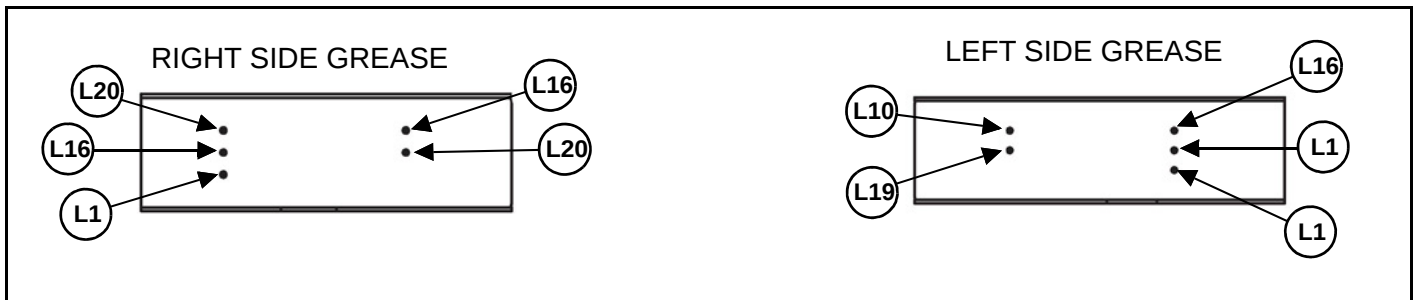

Figure 8.6 Side Grease Banks
- Ⓛ1 Grease (3) nylon bearings that support both augers and the second reduction jack shaft. The bushings are grease line fitted to the lower zerks on the front right and left side grease banks of the spreader. Grease minimum of 10 pumps. Over greasing is not possible. See Figure 8.6 on page 40.
- Ⓛ3 Maintain the oil levels in the (3) gearboxes using each gearbox's sight glass. Check regularly for any observable oil leakage around the input or output shaft seals. If leakage is found, replace seals. Lubricate the (3) gearboxes with Synthetic EP Gear SAE 90/ISO220 oil, capacity approximately 47.3 oz.